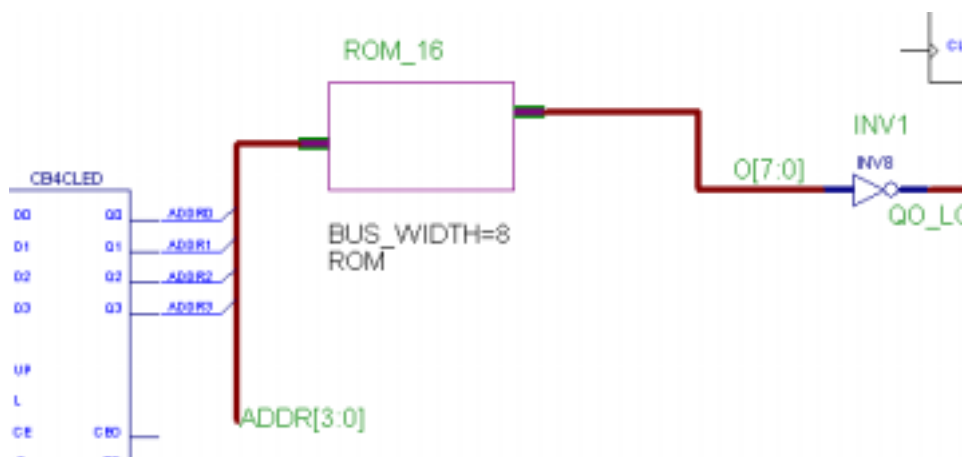

Figure 1
Hint: Place the **MYROM** symbol so that the bottom of the symbol is above the top of the **CB4CLED** outputs, as shown in the diagram, Figure 1. This will make it easiest to connect wires to the bus taps in the next step.
21) Name your ROM symbol by double-clicking on it and setting the **Reference** to some name such as **ROM_16**. Click <OK>. Your final schematic should look similar to Figure 1, below: